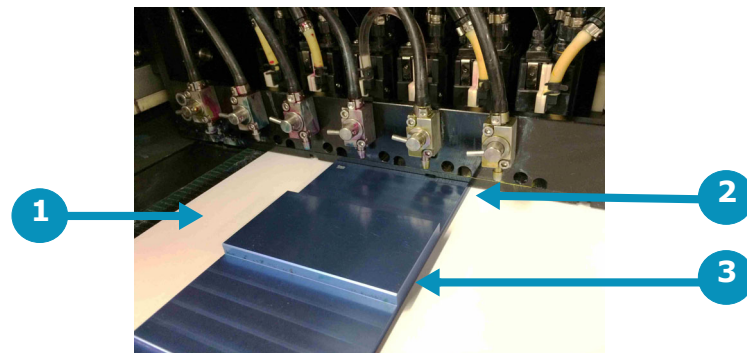

Figure 5-17 Physically Checking the Carriage Gap
3. Slip blue head gap tool under carriage gap. (See Figure 5-17.)